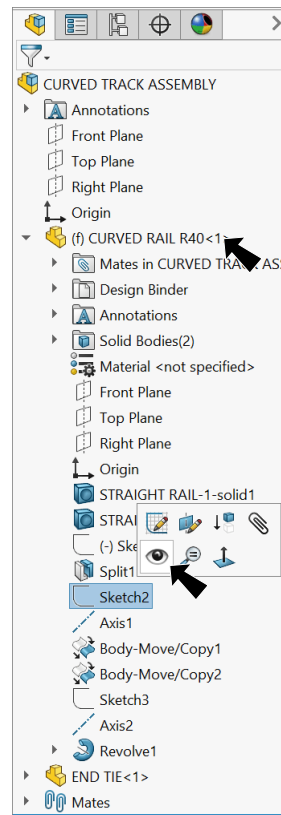

Fig. 11
Step 1. **Show Sketch2**  in **Curved Rail**  component. To show, expand Curved Rail  in the Feature Manager. Click **Sketch2**  and **Show**  on the context toolbar, **Fig. 11**.